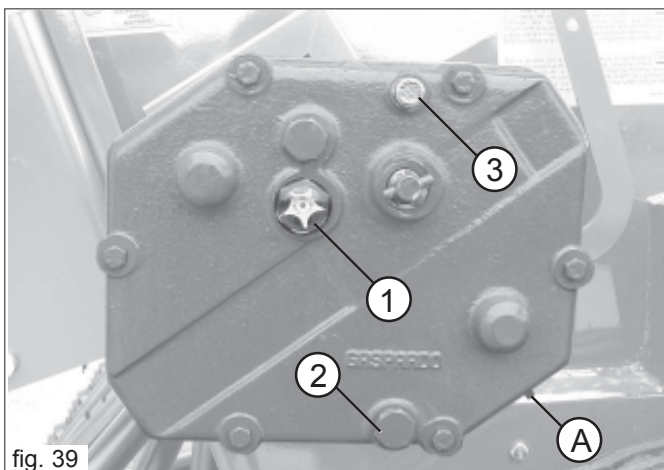

fig. 39
While the gearbox is being adjusted or serviced, the screw must not be touched for any reason (A Fig. 39): this would alter the setting of the gearbox with an adverse effect on distribution.
- Check the oil level in the gearbox and top up to level (1 Fig. 39) whenever necessary using the same type of oil (SAE 80W/90) whenever possible.
- oil drainage plug, 2 Fig. 39;
- oil filling plug, 3 Fig. 39.